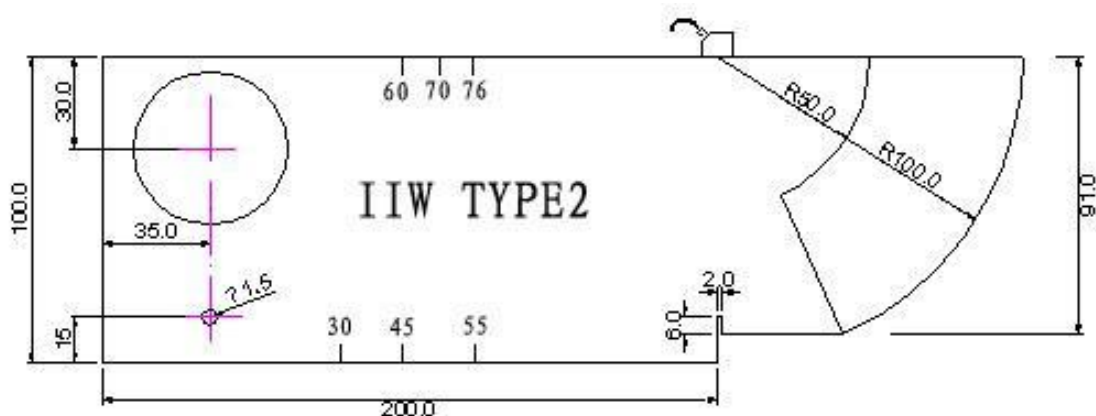

Fig.4.1 50/100 echo
- (1) Select CABT in group Auto C (Automated calibration of transducer) by the < Auto Calibrate > key, by the <Enter > key, you can see 50/100 echo,then put your probe as fig4.1. Try to find the highest echo of 100,then press the <Enter > key twice,the zero point and sound speed of material has been calibrated. then